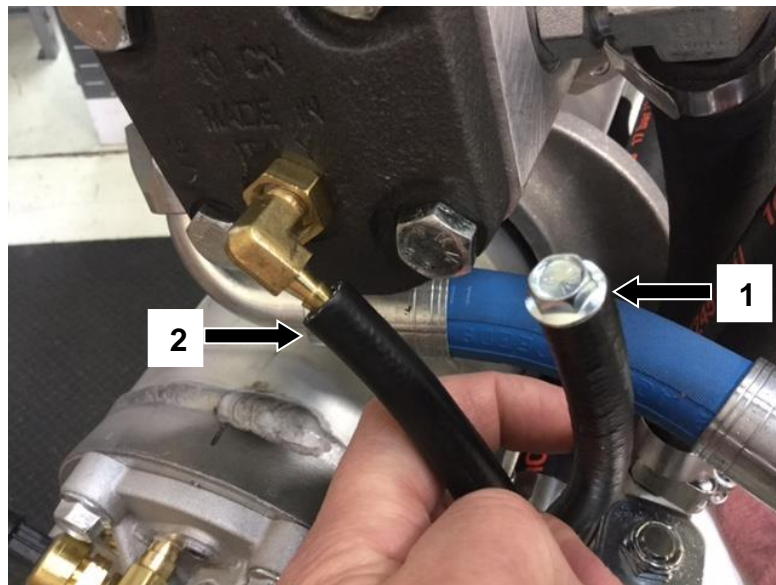

Figure 3
- 3) Plug the end of the disconnected hose (1). Place a temporary ¼” hose (2) securely on the 90° spigot (approx. 1ft of hose will do). (Figure 3)